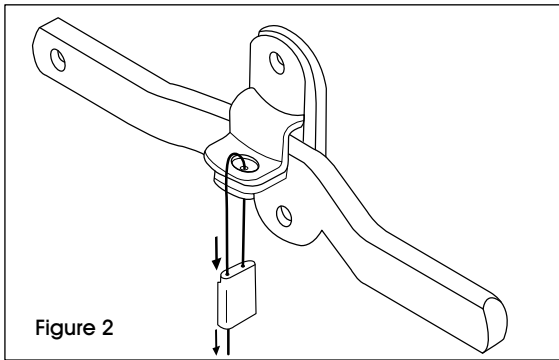

Figure 2
4. Feed long end of cable down through opening in the locking device until a substantial length of cable protrudes. (See Figure 2)